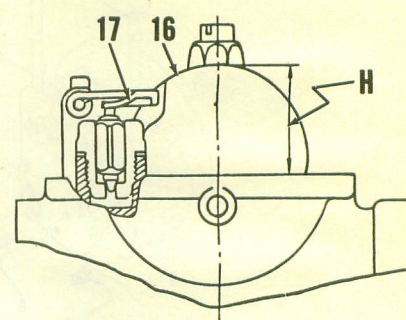
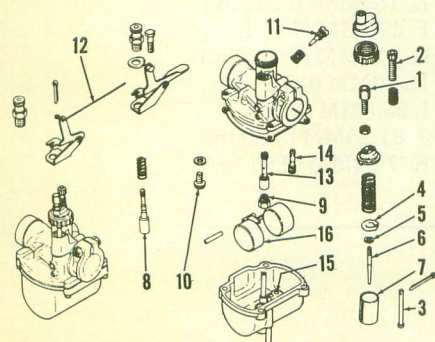

Fig. Y7-2—Float level (H) is adjusted by bending tang (17).
Fig. Y7-1—Exploded view of Mikuni VM carburetor. Starting valves for both carburetors are connected with rod (12).
**CARBURETORS.** Two Mikuni VM carburetors are used. Idle speed should be set at approximately 1,200 rpm by turning adjusters (2—Fig. Y7-1). Make sure that throttle slides (7) both stop at exactly the same position and exhaust pressure is the same for both cylinders.
Float level (H—Fig. Y7-2) should be 1 inch (25.5MM) and is adjusted by bending tang (17) on float. Refer to Fig. Y7-1 and the following standard specifications:
Before adjusting the pump control cable, it is important that the throttle cable guides (1—Fig. Y7-1) are correctly set. To adjust the throttle cable guides, turn the idle speed adjusters (2) all the way down, then synchronize cable guides (1) so that both the throttle slides (7) begin to move at exactly the same time when the hand grip is turned. The throttle cables